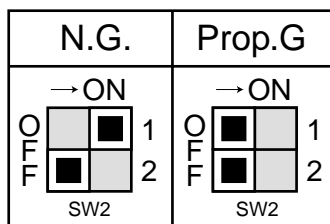

fig.1
4. Check gas type switches no.1 and no. 2 of SW2 (fig. 1) are in the correct position for the type of gas (Nat. or LPG) you are using. (SW2 is top set of switches.)